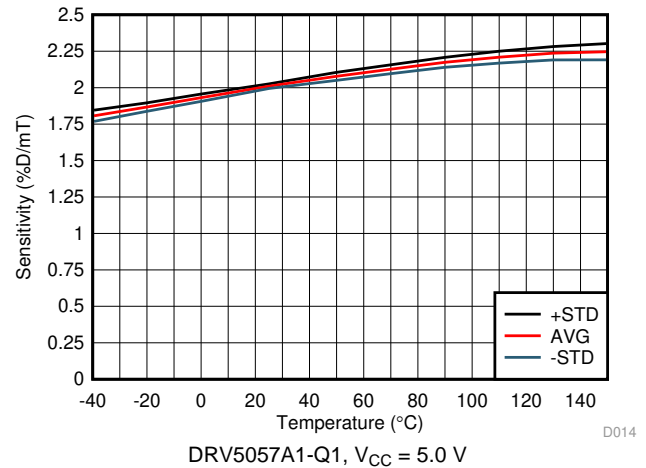

图 4. Sensitivity vs Temperature
(1) This unit is a percentage of duty cycle.
(2) B is the applied magnetic flux density.
(3) See the Sensitivity Linearity section.
(5)  $S_{TC}$  describes the rate the device increases Sensitivity with temperature. For more information, see the Sensitivity Temperature Compensation for Magnets section and 图 4 to 图 11.